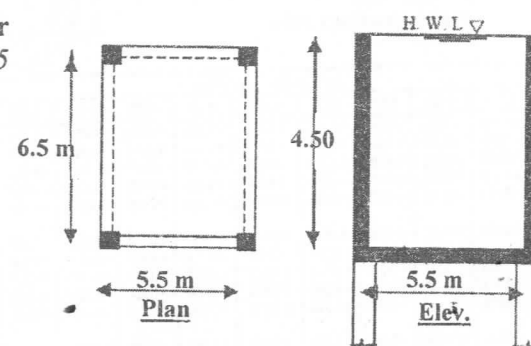

Fig. 2
B. For the elevated rectangular tank shown in Fig. 2, with floor 6.5 m x 5.5 m and 4.5 m water depth, it is required to: (15 marks)